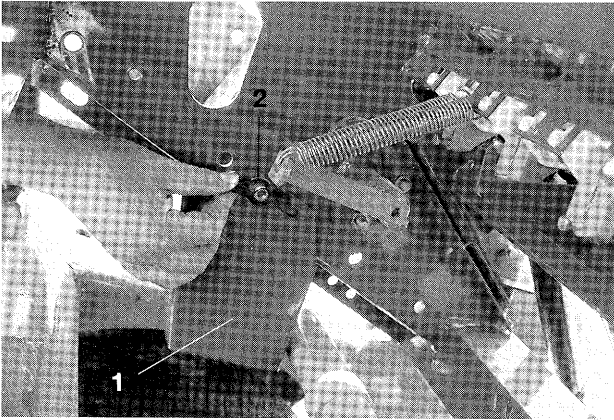
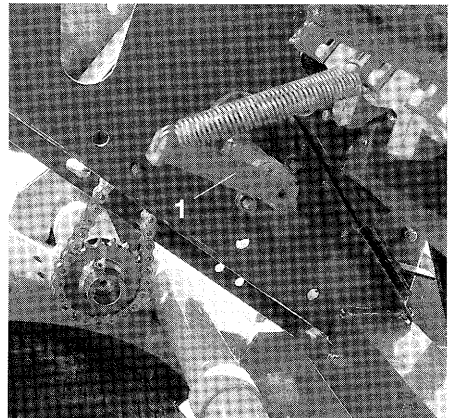

Fig. 24
Fig. 26
-  After removal of the wing nut (Fig. 24/2) take off the drive chain guard (Fig. 24/1) at the right hand inner side part of the seed drill.
-  For tensioning the drive chain swivel the lever upwards (Fig. 26/1) and refit the chain guard (Fig. 24/1).